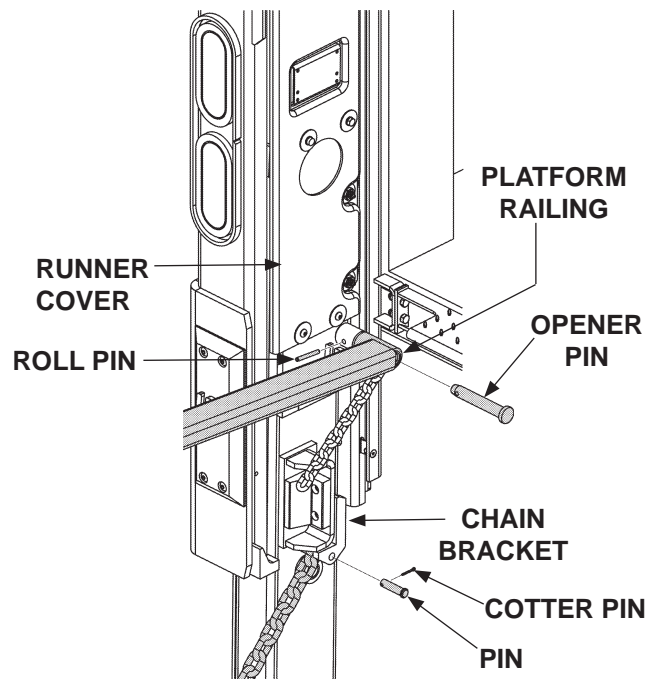

FIG. 26-2
2. Remove cotter pin and pin to remove chain bracket from LH runner (**FIG 26-2**). Next, remove roll pin and opener pin to remove platform railing from LH runner (**FIG 26-2**). Then, unbolt and remove cover from runner. Repeat for RH chain bracket, platform railing and RH runner.